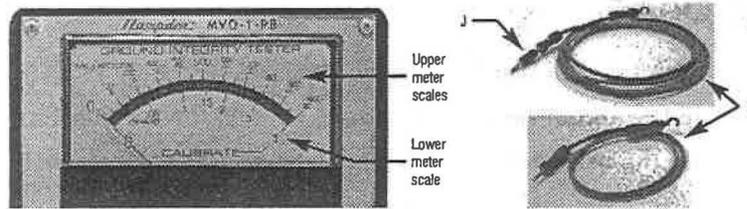

Figure 7
**Note:** The ground common cord is meant to be connected to a Hampden SLR-3S receptacle. If a Hampden SLR-3S receptacle is not available, connect the Hampden MVO-DGA Duplex Ground Adapter (J, supplied) to the common cord end and use a duplex receptacle as your common ground. See Figure 7.